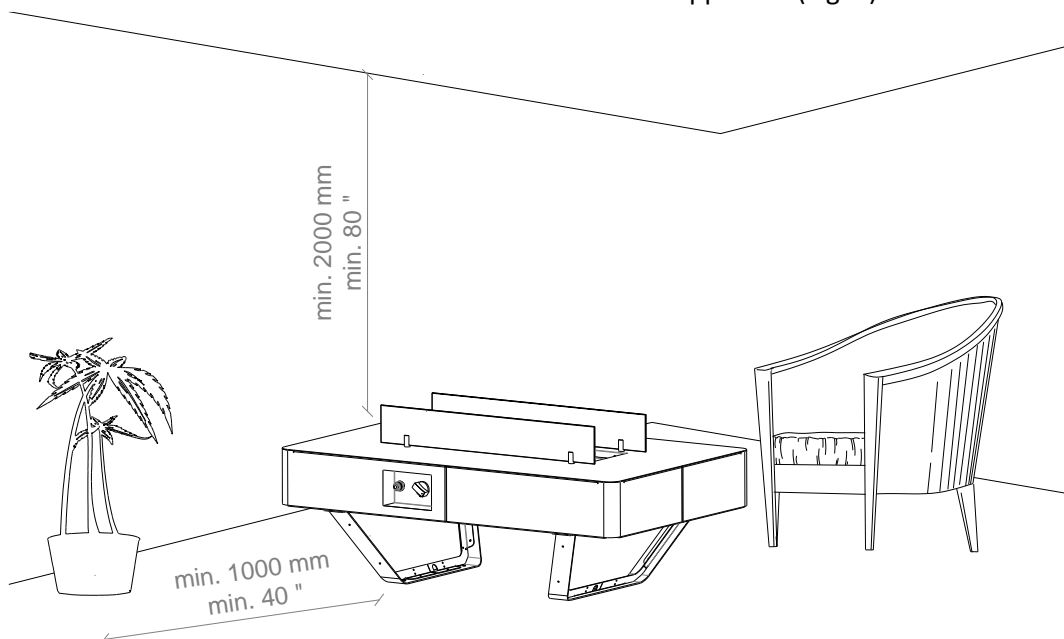

Fig. 1: Minimum distance to flammable materials
- This appliance must be kept away from flammable materials during use. Do not place any combustible materials within a distance of 1 m of Table and 2 m over the appliance (Fig. 1).